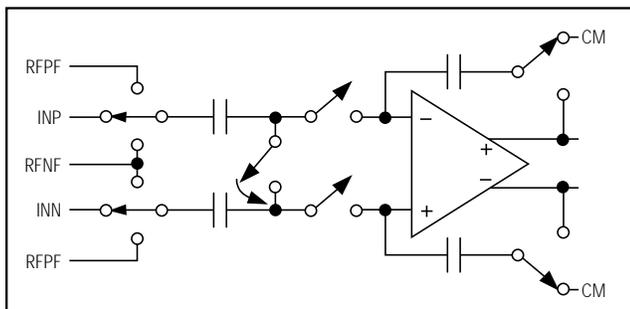

Figure 2. Simplified MDAC Architecture
Fully differential switched-capacitor circuits (SC) are used for both the reference and analog inputs (Figure 2). This allows either single-ended or differential signals to be used in the reference and/or analog signal paths. The signal voltage on these pins (INP, INN, RFP_, RFN_) should never exceed the analog supply rail, AVDD, and should not fall below ground.